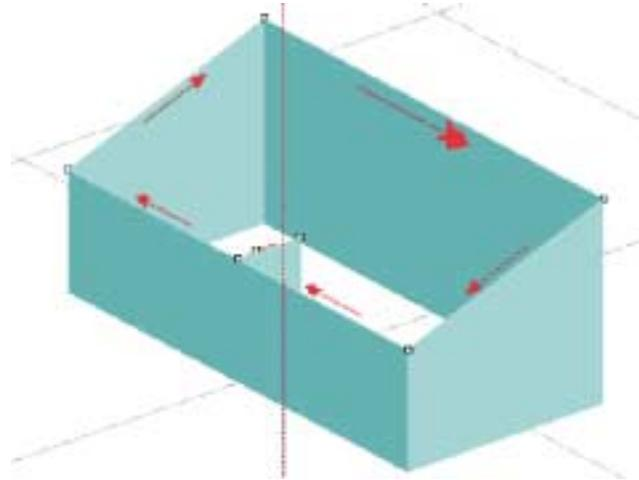
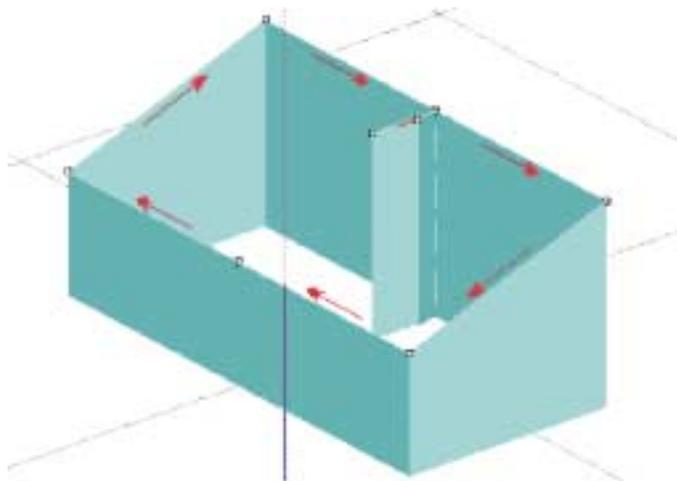

Figure A-12. Start of lead-in and end of lead-out are below material surface
Figure A-13. Start of lead-in and end of the lead-out are above material surface
A collision between the cutting head and material can occur when lead-ins or lead-outs are drawn lower than the material surface. Figure A-12 shows a close up of a rectangular cut-out in a piece of material that has a sloped surface. The cut-out is sloped, but the leads are drawn horizontally in the XY-plane. This occurs if the automatic path ordering tool is used to add the leads. When the part is cut, material occupies the space shown as the cut-out in Figure A-12. When the cutting head is moved to the start of the lead-in, a collision occurs if the slope is greater in relation to the standoff distance between the mixing tube and the material.
- Manually draw the leads in a preferred location. Figure A-13 shows how to orient the leads horizontally. The leads are at the "top" of the slope so no collision occurs. The standoff between the leads and the mixing tube tip will be greater than the standoff throughout the part, but any differences in cutting should be minimal and in waste material. The leads can also be oriented along the slope to obtain the desired standoff.
- The automatic path tool can be used and the leads examined in various features throughout the part. If problems like those shown in Figure A-12 are present, select **Edit | Drag Lead-in/out** to reposition the lead as shown in Figure A-13.